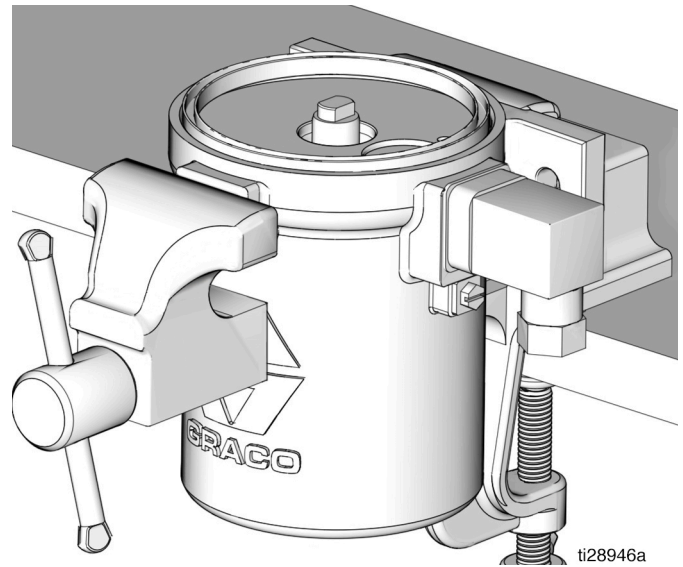

FIG. 35
12. Reposition the air motor cylinder in vise to access the top of the air motor cylinder, as shown in FIG. 35.